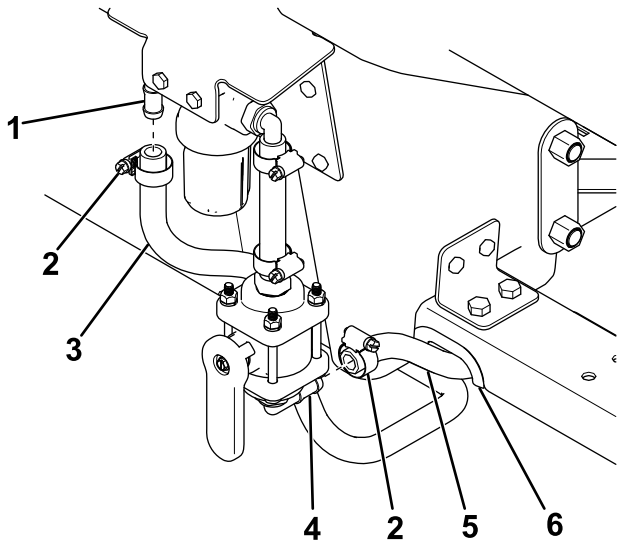

**Figure 38**
- Mount the filter to the spreader leg using 2 bolts (1/4 x 3 inches) and nuts (Figure 38).